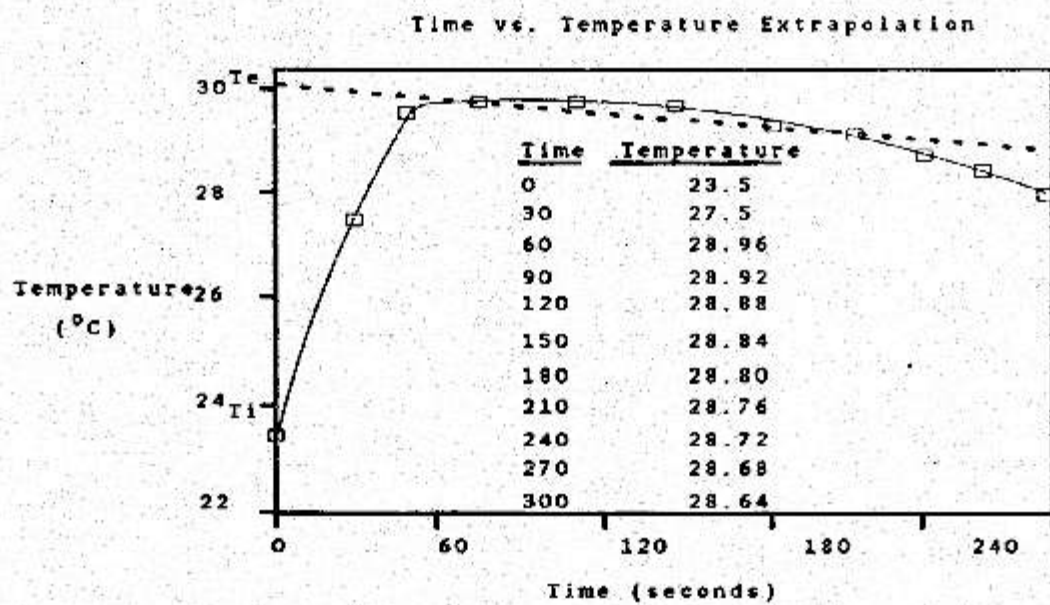

FIGURE 1
a. After plotting your data points of temperature vs. time, draw a smooth curve through these points. Your initial point at time = 0 will have the initial temperature (T_i) of the solution prior to mixing (refer to Figure 1). Draw a straight line from your "stabilized" data (data recorded over the one minute intervals) back to the Temperature axis. This is your extrapolation. The extrapolated temperature, T_f , is the temperature where this extrapolation line intersects the y-axis.